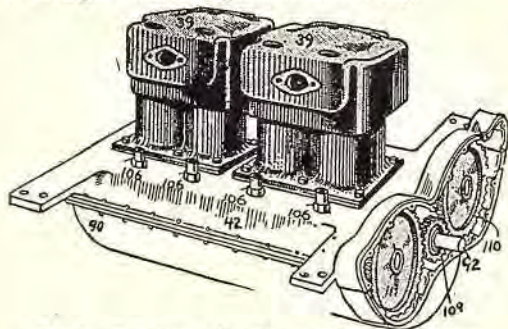

Fig. 6. Cylinders, valve-plunger guides, timing gears.
As the inlet valve is mechanically operated, the cam must be adjusted (by having the inlet cam gear properly meshed with the crank-shaft gear) so that it will open the valve promptly as soon as the sucking action of the piston commences, which it is just beginning to do in Fig. 6. Note that the cam is just starting to raise the inlet valve.
After the four pistons are fitted to the connecting rods, the cylinders (39) (Fig. 6) are fitted down over the pistons, care being taken not to break the piston rings.
The valve-lifter guides (106) (Fig. 6) are fitted in holes in each side of the crank case so that they will come in line with the exhaust valves on one side of the cylinders, and with the inlet valves on the other side.
The gear for driving the timing gears, called the crank-shaft timing gear (109) (Fig. 6), is keyed or threaded to the end of the crank shaft (92); this gear drives the two timing gears (110 and 111).